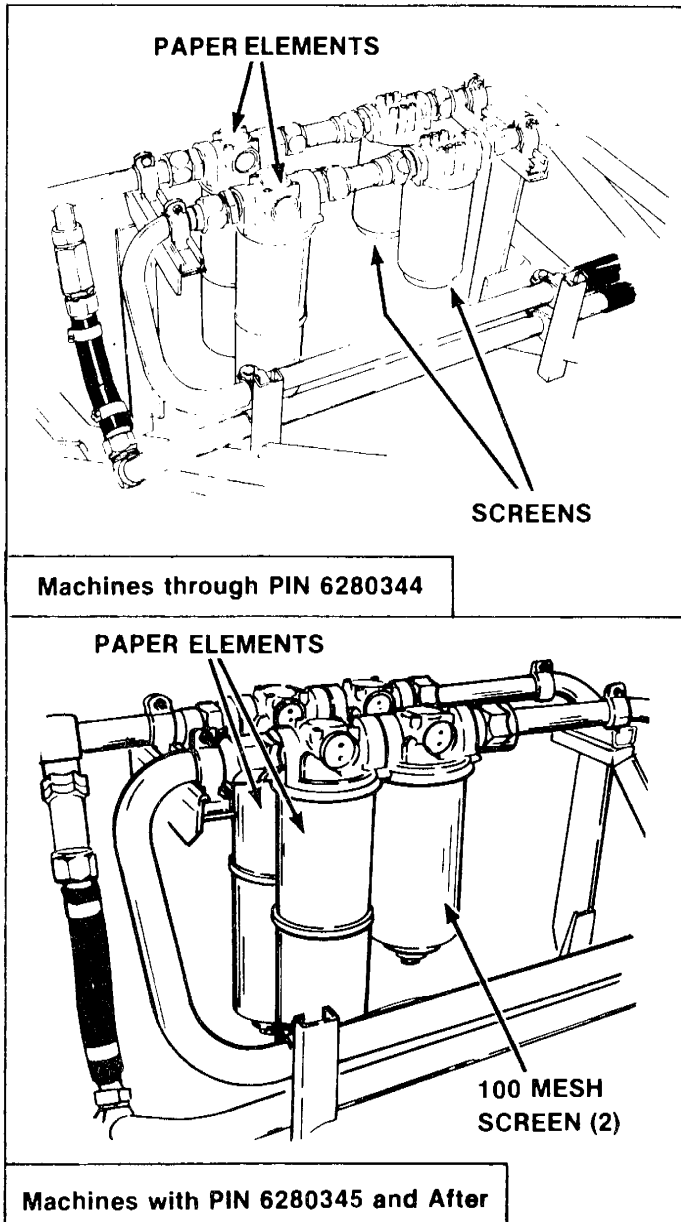

Figure 20. Location of In-Line Hydraulic Filters
11. **IN-LINE HYDRAULIC FILTERS** - Every 2 months or 500 hours clean the screen filters and replace the paper filters. The filters are found at the rear of the boom. See Figure 20. Clean around the filter housings before servicing to prevent entry of dirt into the hydraulic system.